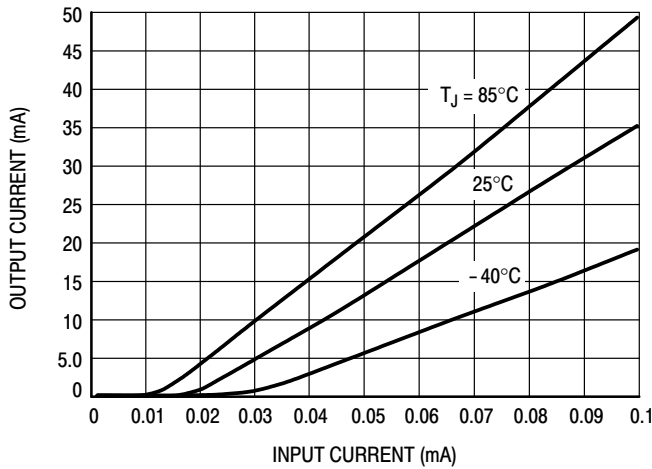

Figure 4. Threshold Effects
5. For levels of input current below  $100\ \mu\text{A}$ , use the input threshold curves of Figure 4 to verify that there will be adequate input current available to turn on the MDC3105 at all temperatures.